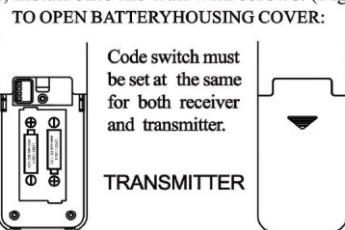

Fig. 3
5. To change the batteries is to open the battery housing cover by sliding out the cover downward to the arrow shown direction while pressing down the cover with thumb. (Fig. 3) Holder for transmitter: if desired, install onto the wall with screws. (Fig. 4)